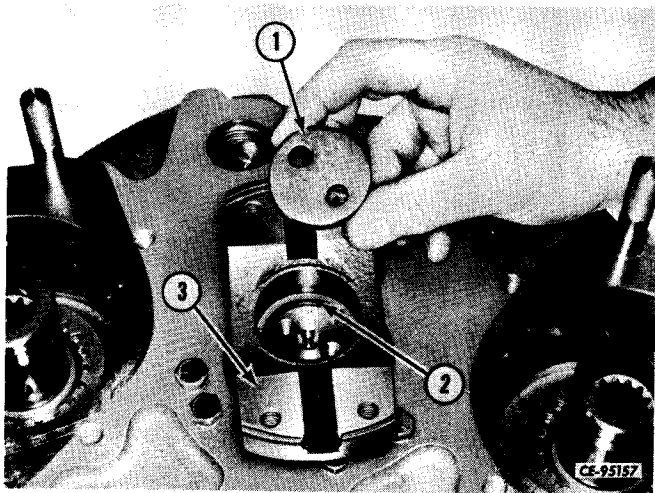

Figure 3-46
Apply clean grease to the output yoke (3, Fig. 3-46) sealing surface. Install yoke on the splined shaft. Position a new "O"-ring (2) and clamp plate (1) in the yoke bore. Install clamp plate retaining cap screws and tighten to the recommended torque (refer to "SPECIAL TORQUES").